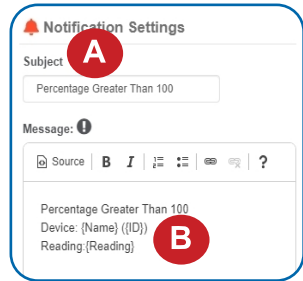

Figure 20
- A.** Input the subject for the notification. See Figure 20.
- B.** Customize the message body for the notification. See Figure 20.